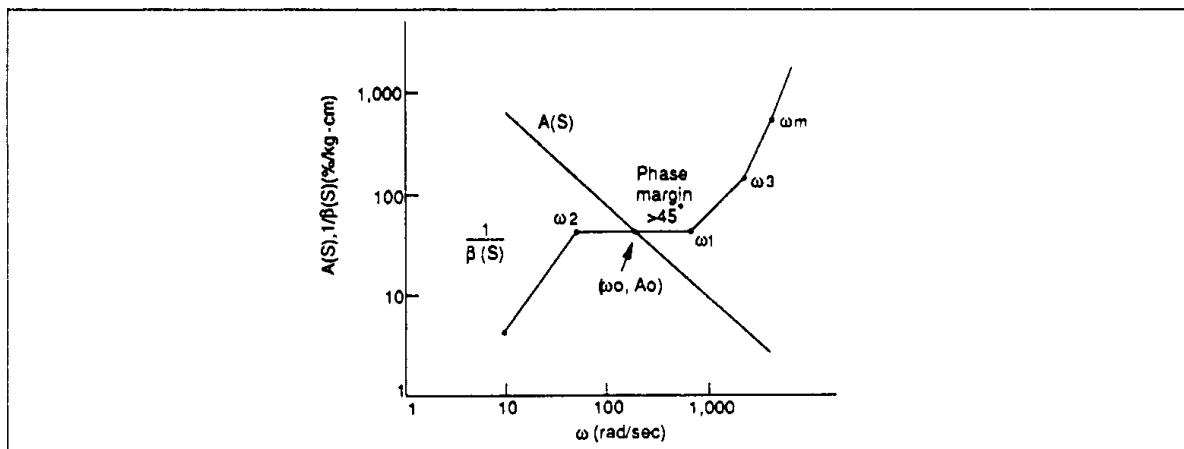

Figure 3 Stable Relationship of $A(S)$ and $\beta(S)$
To control speed within a stable fashion, $A(S)$ and $\beta(S)$ must have the relationship shown in Figure 3. That is, the angular frequency of the crosspoint of $A(S)$ and $\beta(S)$, ω_0 , should be between the angular frequency of the integrator, ω_1 and ω_2 .
From Figure 3 and equation (12):